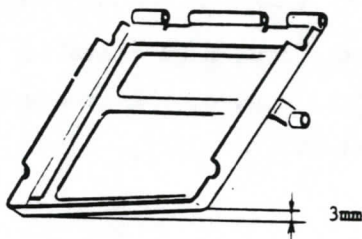
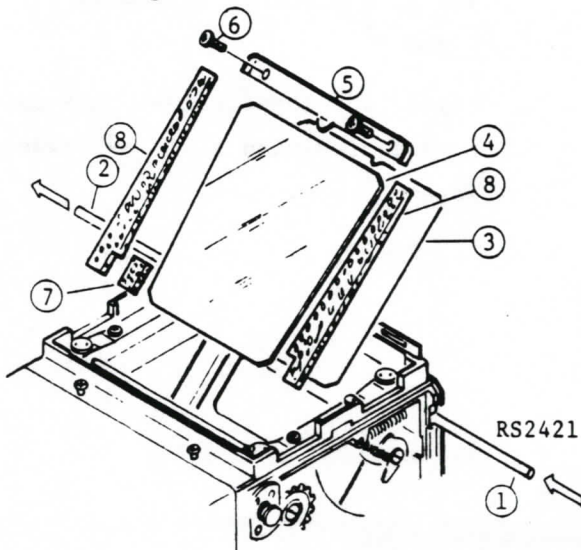

Fig.40
Fig.42
- (1) Fill up gap of rivetted Light baffle plate by glue (DB Bond), and paint mat lacquer.
- (2) The upper end of the mirror curtain is placed to set 3 raised marks.
- (3) In order to keep the parallel of Mirror holder, the left side of the Mirror holder is bent about 3mm as shown in Fig.40.
- (4) Assemble in the reverse order of disassembly.
- (5) Replace shaft (RS2421).
- (6) Attach Mirror in the order of the numerals in a circle as shown in Fig. 42.
- (7) Mirror holder shall touch Stopper of both sides of the body.